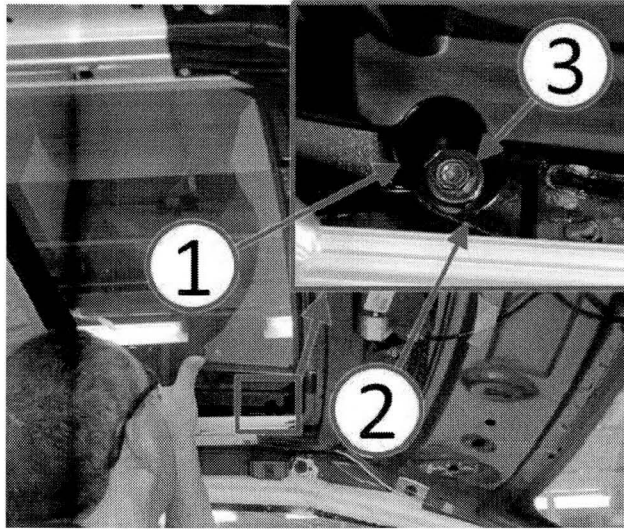

Fig. 8 Sunroof Glass Panel Mounting Tab Inspection
13. Verify that all four sunroof glass panel mounting tabs (1) are inboard of the sunroof module (2) (Fig. 8).
14. Align the holes in sunroof glass mounting tabs to the nuts in sunroof module, then install all four screws (3) but do not tighten the screws at this time (Fig. 8).